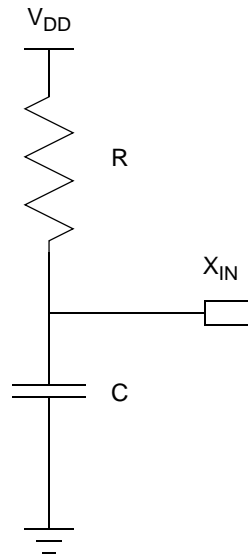

Figure 36. Connecting the On-Chip Oscillator to an External RC Network
Figure 36 illustrates a recommended configuration for connection with an external resistor-capacitor (RC) network.